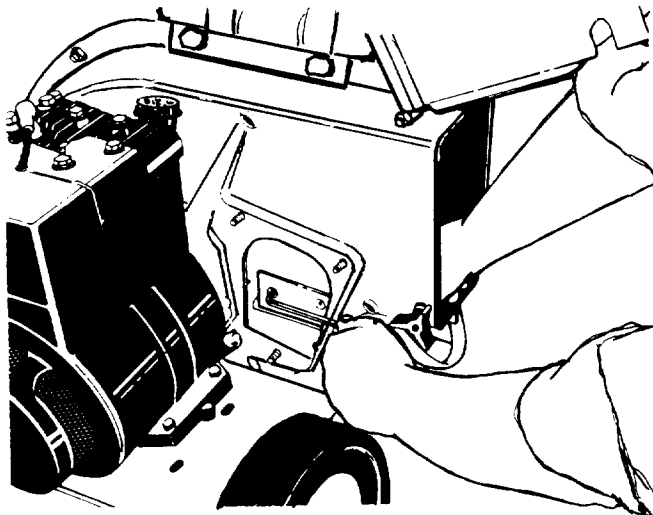

FIGURE 20.
- Rotate the impeller assembly by hand until you locate one of the chipper blades in the chipper chute opening. Remove the blade, using a 3/16" allen wrench on the outside of the blade and 1/2" wrench on the impeller assembly (inside the housing). See figure 20.